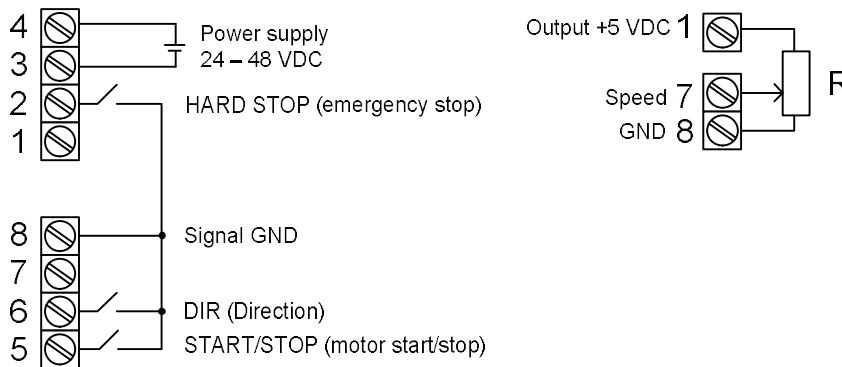

Fig. 3. Connection of power supply and external control elements
2. Connect external control elements according schemes on fig. 3:
4. If needed, connect control elements to the “START/STOP”, “DIR” and “HARD STOP” contacts – according to the section 4 and fig. 3. As a default, “START/STOP” and “DIR” inputs are handled as per the front edge of the signal. Please, contact the manufacturer or official representative if need to change signals handling to a signal level type.